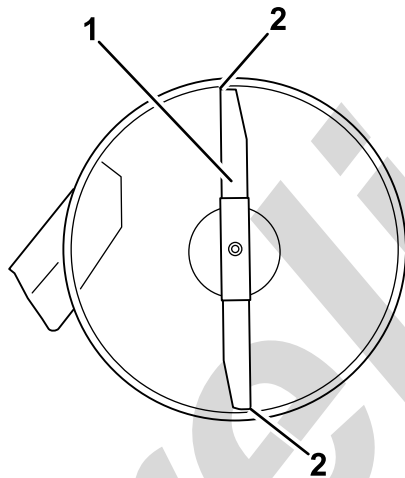
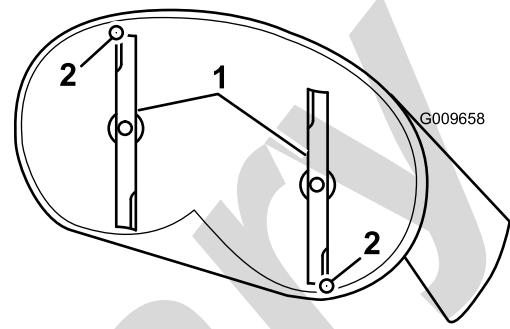

Figure 54
Figure 55
4. Carefully rotate the blades so they are facing front to rear (Figure 54 or Figure 55).
5. Measure from the tip of the front blade to the flat surface and the tip of the rear blade to the flat surface (Figure 55). If the front blade tip is not 1/16-5/16 inch (1.6-7.9 mm) lower than the rear blade tip, adjust the front locknut.
8. After adjustment, check the front-to-rear slope again. Continue adjusting the nut until the front blade tip is 1/16-5/16 inch (1.6-7.9 mm) lower than the rear blade tip (Figure 55).